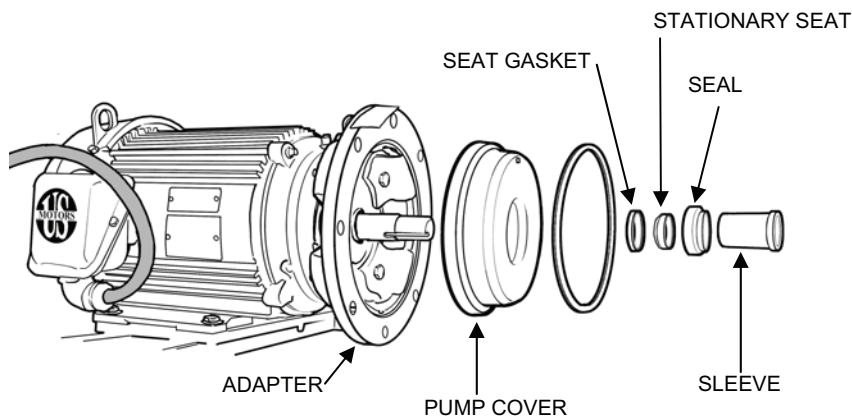

Figure 14. Seal Kit Component Removal.
3. If the seal kit (seal, stationary seat, seat gasket, and spring) and shaft sleeve need to be replaced, remove them as follows (see Figure 14):